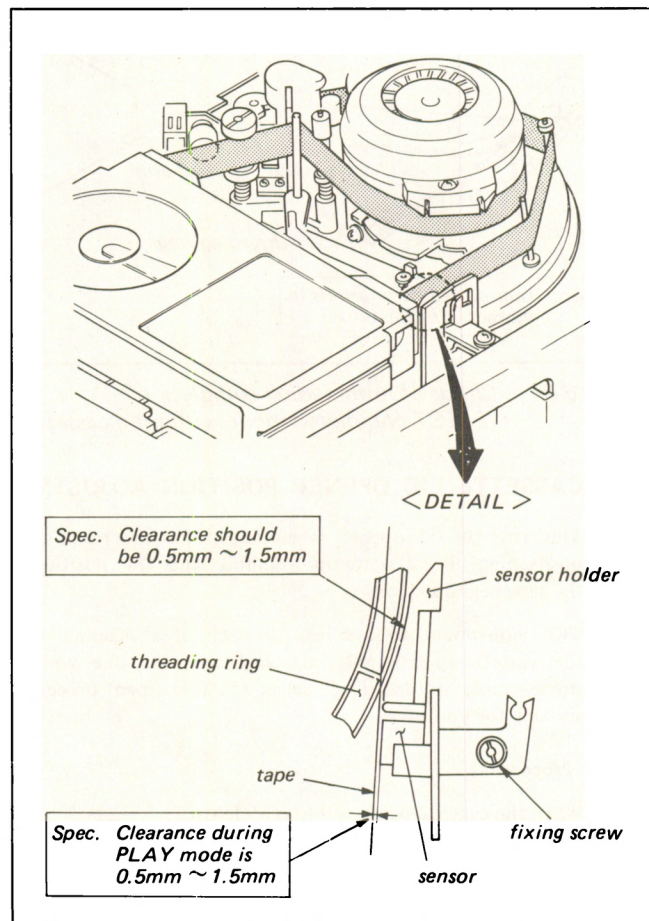

Fig. 6-11. Tape beginning sensor position adj.
3. Confirm that the clearances between the tape and sensor and also the clearance between the sensor holder and the threading ring are within the specifications. See Fig. 6-11.